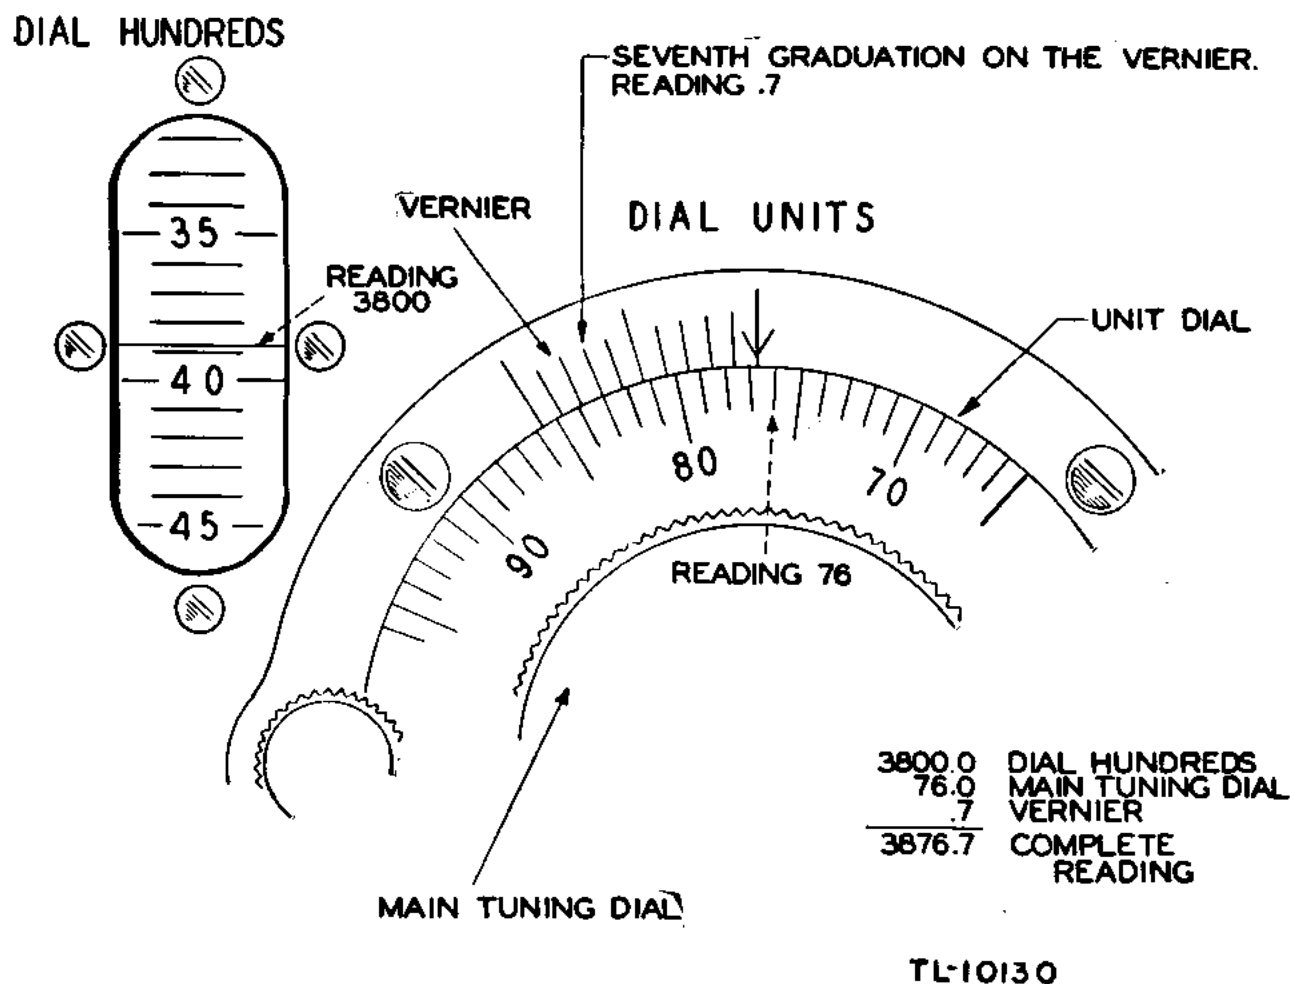

Figure 13. Frequency Meter BC-221-(G), main tuning dial.
a. **GENERAL.** Before attempting to turn the main tuning dial (DIAL UNITS), always make sure the dial lock is loosened. The drum-dial behind the small window (fig. 13) indicates, in hundreds, the reading of the dial setting. The large dial provides the units, and the vernier scale, above and on the outside edge of the large dial, provides the tenths place of the setting. The large dial is provided with the simple friction lock so that a predetermined setting can be kept fixed. This feature is of particular value when the instrument is subjected to vibration.
b. **USE OF THE DIAL.** (1) *Setting the dial.* To set this control, having loosened the locking screw:
(d) Figure 13 is an illustration of the dial setting 3876.7.